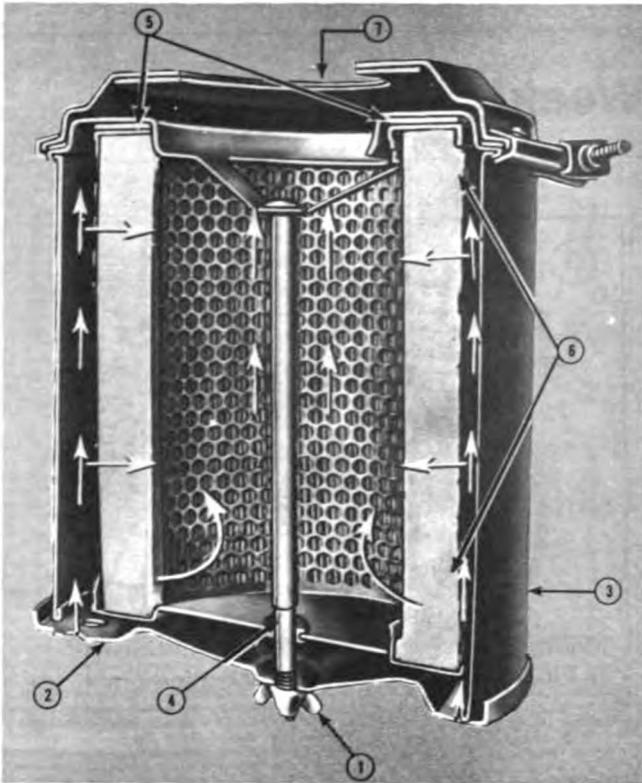

Fig. 2-9. (OM1028L). Air cleaner—dry type
1. Loosen the wing nut (1, Fig. 2-9) securing the